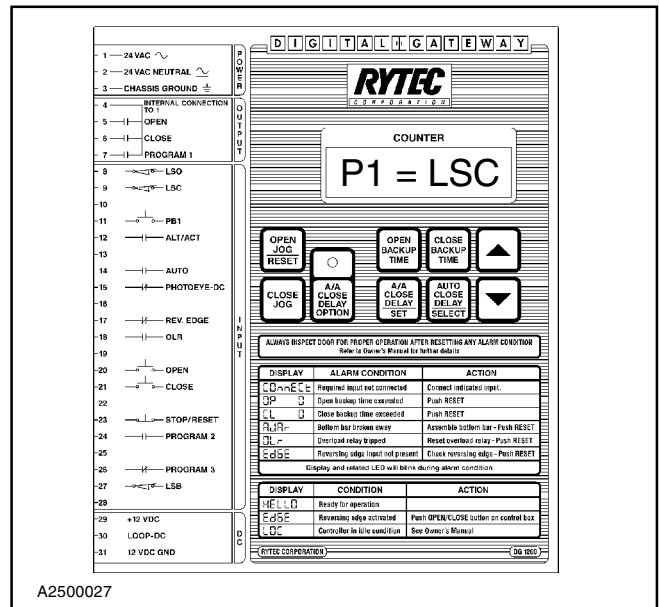

Figure 22
4. After you find the program you wish to change, press the Set button to enter the sub-menu for that particular program. Each sub-menu will be identified by the program number and an option code. Figure 22 shows the default setting (Door Not Closed) for Program 1.